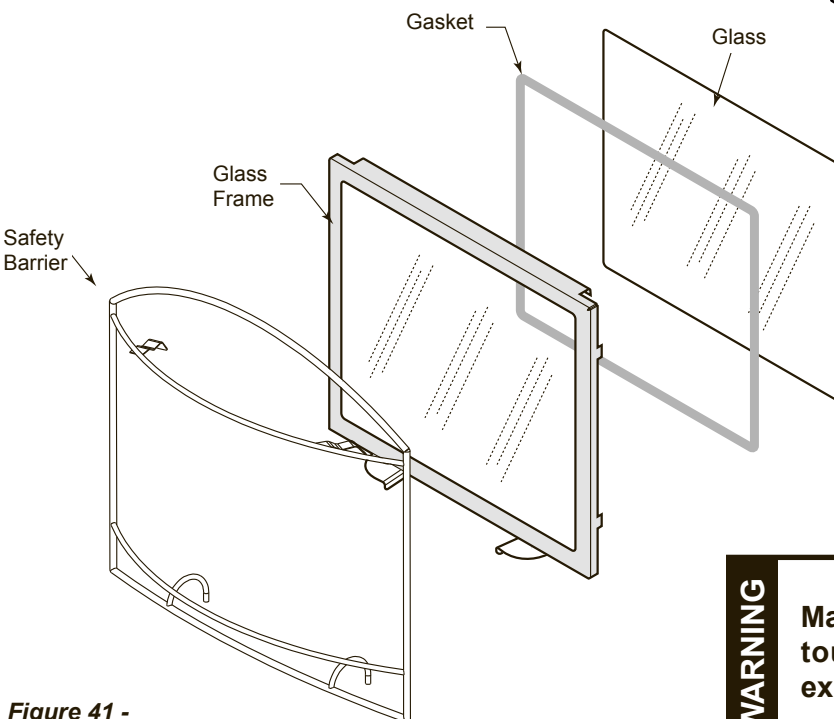

Figure 41 - Glass Replacement
4. Remove glass from stove by releasing two clamps on bottom of stove. Lift glass frame up and off the unit. *Figure 41*
8. Slide glass frame back down onto stove and fasten two clamps. *Figure 41*